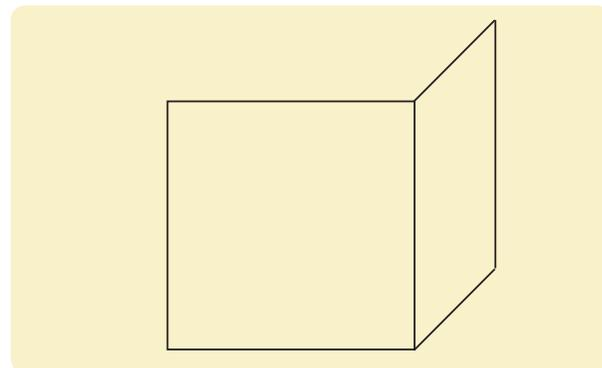

Figure 2.24 The side of an oblique drawing
- 3 Draw another line at 45° to the horizontal as shown in Figure 2.24. Draw a vertical line to join the two lines drawn at 45° .